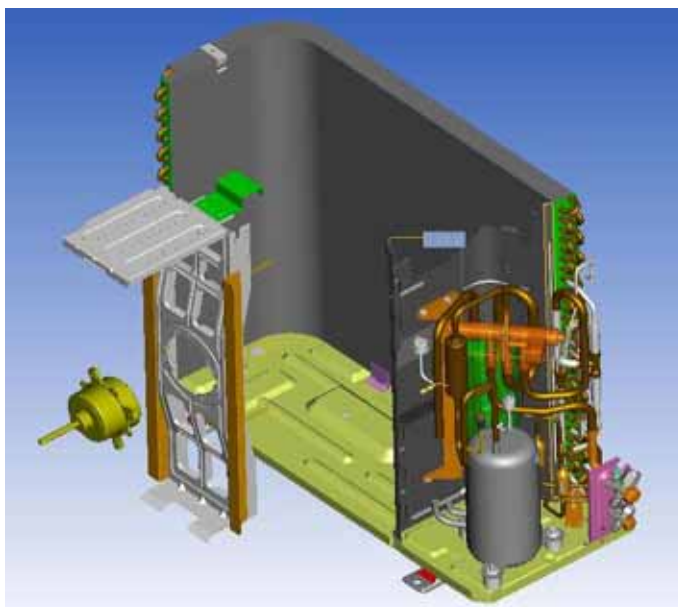

Fig.10
- Loosen the screws fixing the motor support. Remove the motor support. Loosen the wire of motor, and pull it through the hole. Remove the motor. [See Fig. 10]